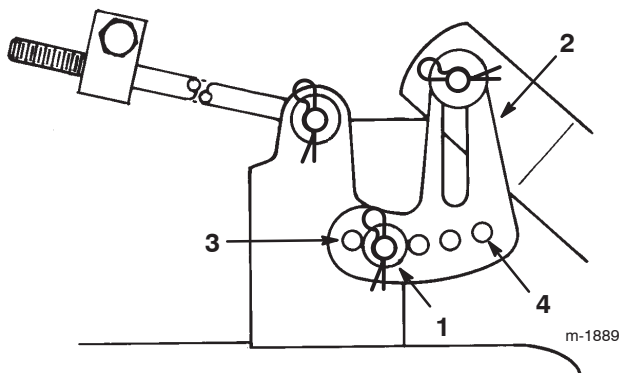

Figure 47
6. Remove the hairpin cotter and washer from the leveling bracket (Fig. 47). To level the blades, reposition the leveling bracket in a different hole and install the washer and hairpin cotter (Fig. 47). A front hole lowers the blade height and a rear hole raises its height. Repeat this procedure on the opposite side of the mower.